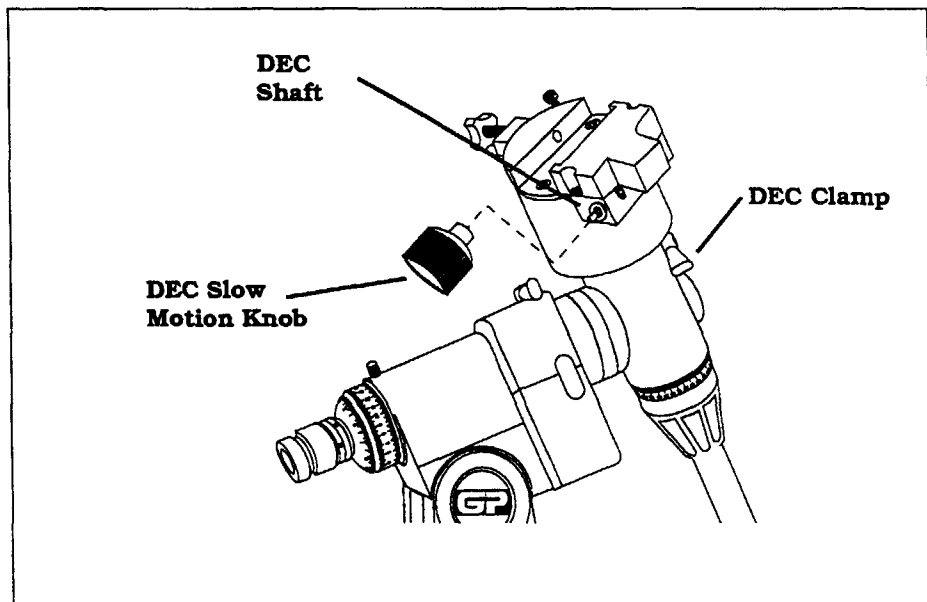

Figure 2-6
2. Slide the DEC slow motion knob over the DEC shaft (see figure 2-6).